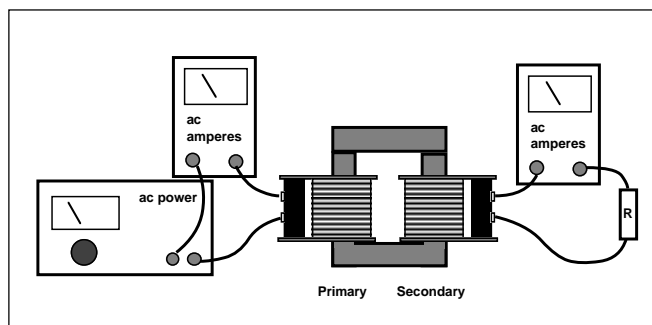

Figure 1
1. Set up the coils, core and $1000\text{-}\Omega$ load resistor as shown in Figure 1. In the diagram, the coil to the left will be referred to as the primary coil, and the one to the right will be the secondary coil. Note that we provide an alternating current at the primary at one voltage level, and read the output at the secondary at possibly a different value.